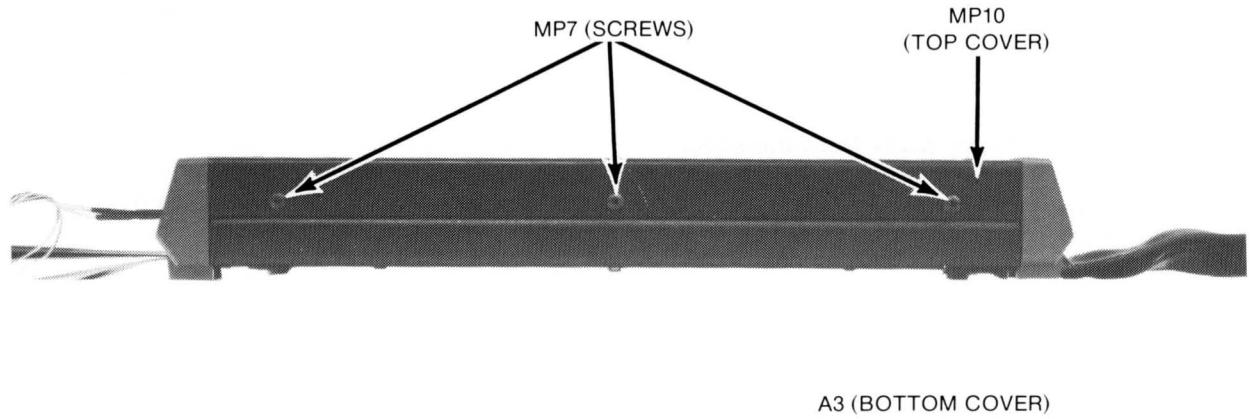

Figure 2-5. 80186 Emulator Pod Side View
- c. Remove the three screws on each side of the emulator pod (MP7, see figure 2-5).
5. Insert and tighten the six screws (MP7; figure 2-5) which hold each side of the pod top cover to the pod bottom cover.